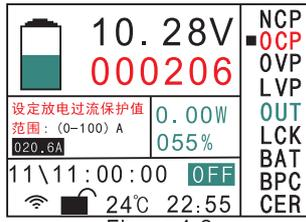

Figure 4-2
2). "**OCP**" Discharge over current protection value, if the value is greater than 0 will start the protection, if equal to 0 will not start the protection function. When setting the parameters, press the  $\uparrow\downarrow$  key to move the cursor to **OCP** and then click the **OK** key to enter into the parameter setting interface of Figure 4-2, setting the parameters in the same way as NCP.